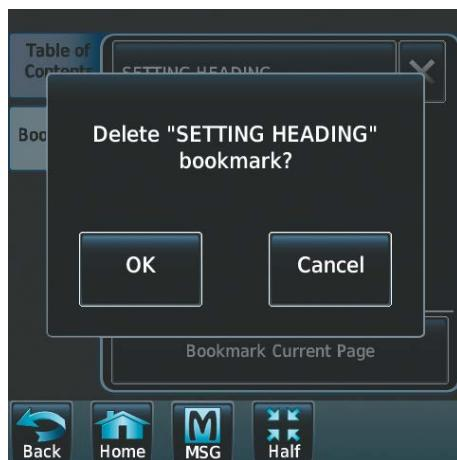

Figure 8-115 Delete Bookmark
- 3) Touch the **X** Button next to the bookmark to be deleted (Figure 8-115).